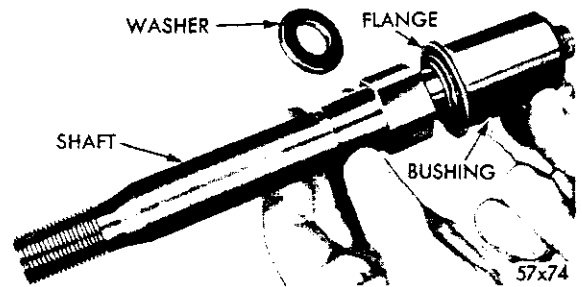

Fig. 14—Removing the Shaft Bushing
(2) Remove the cotter pin, nut and washer from the end of the shaft, and remove the bushing from the shaft (Fig. 14).